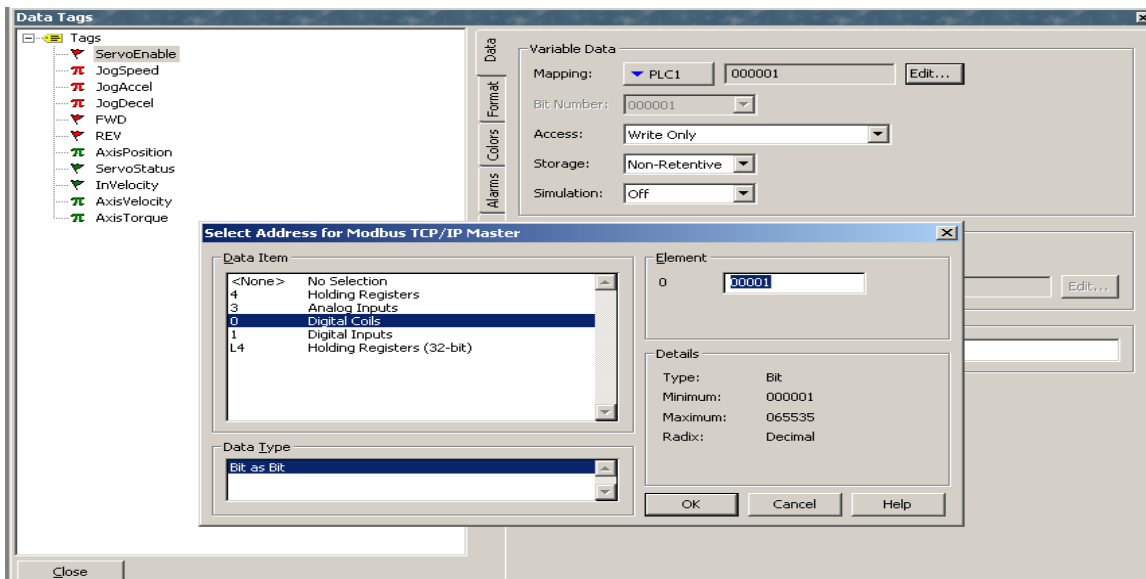
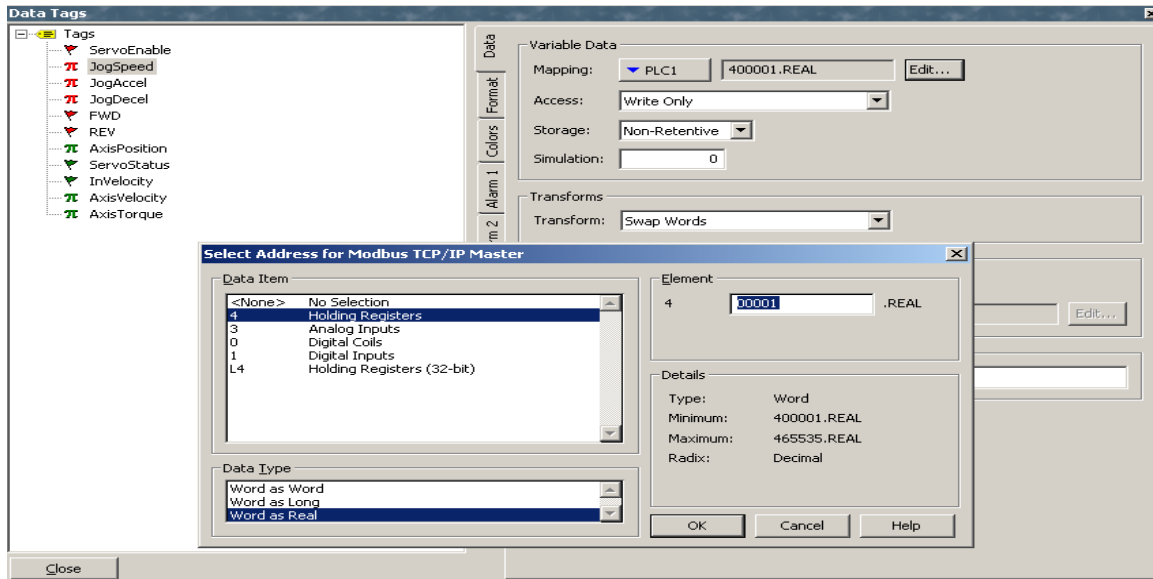
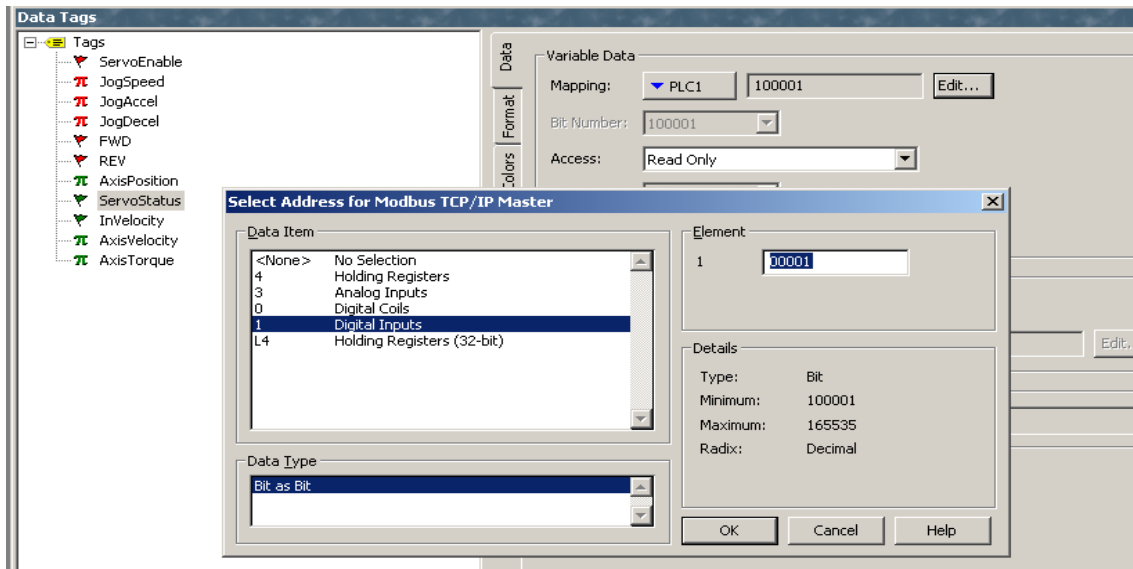
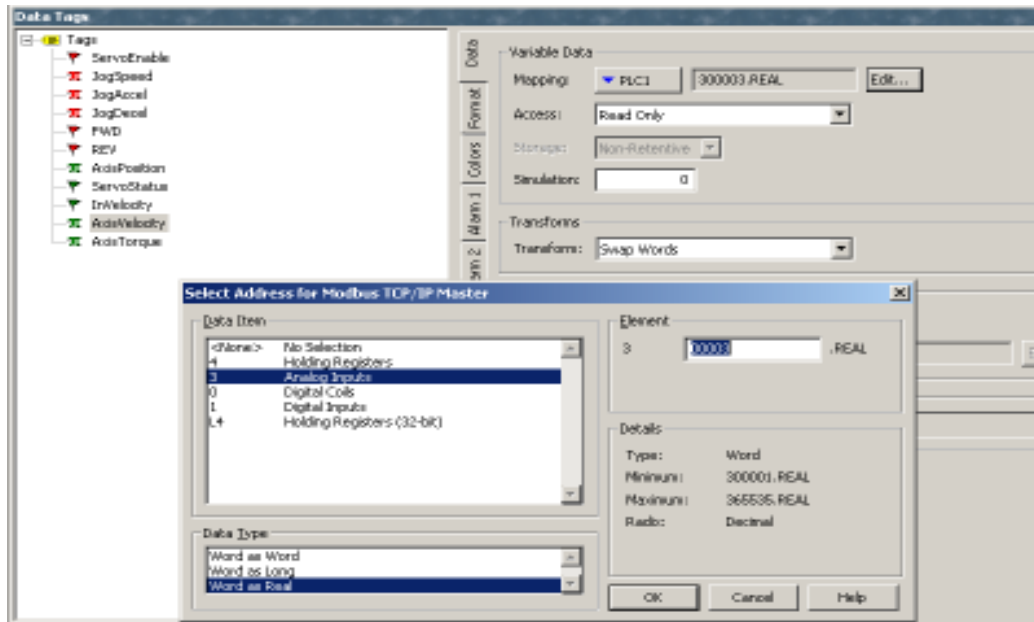

Figure 10: Mapping bit (FC: 5)
Figure 11: Mapping word (FC: 16)
Figure 12: Bit Mapping (FC: 2)
Figure 13: Word mapping (FC: 4)
and specify what register location that tag should be associated with. For example, the tag 'ServoEnable' is mapped to a location in PLC1, which is the slave IEC controller. On clicking the edit button, the register and data type can be seen as shown in Figure 10. It can be seen that a bit was chosen as the data type. The register to which that tag is mapped is 00001 and it is a coil. This bit will be mapped to the first bit mapped under Function Code (FC) 5. The access to this tag is set as 'Write Only' as this variable is used for writing to the controller. FWD and REV are similar bit tags. The 'Jog speed' tag mapping is shown in Figure 11. A 'word swap' transformation is carried out for words. The register used for the word is 40001. Figure 12 illustrates the mapping of a tag that is a read access variable that reads the servo status from the controller to display at the HMI panel. Figure 13 illustrates a controller output real variable displayed at the HMI.